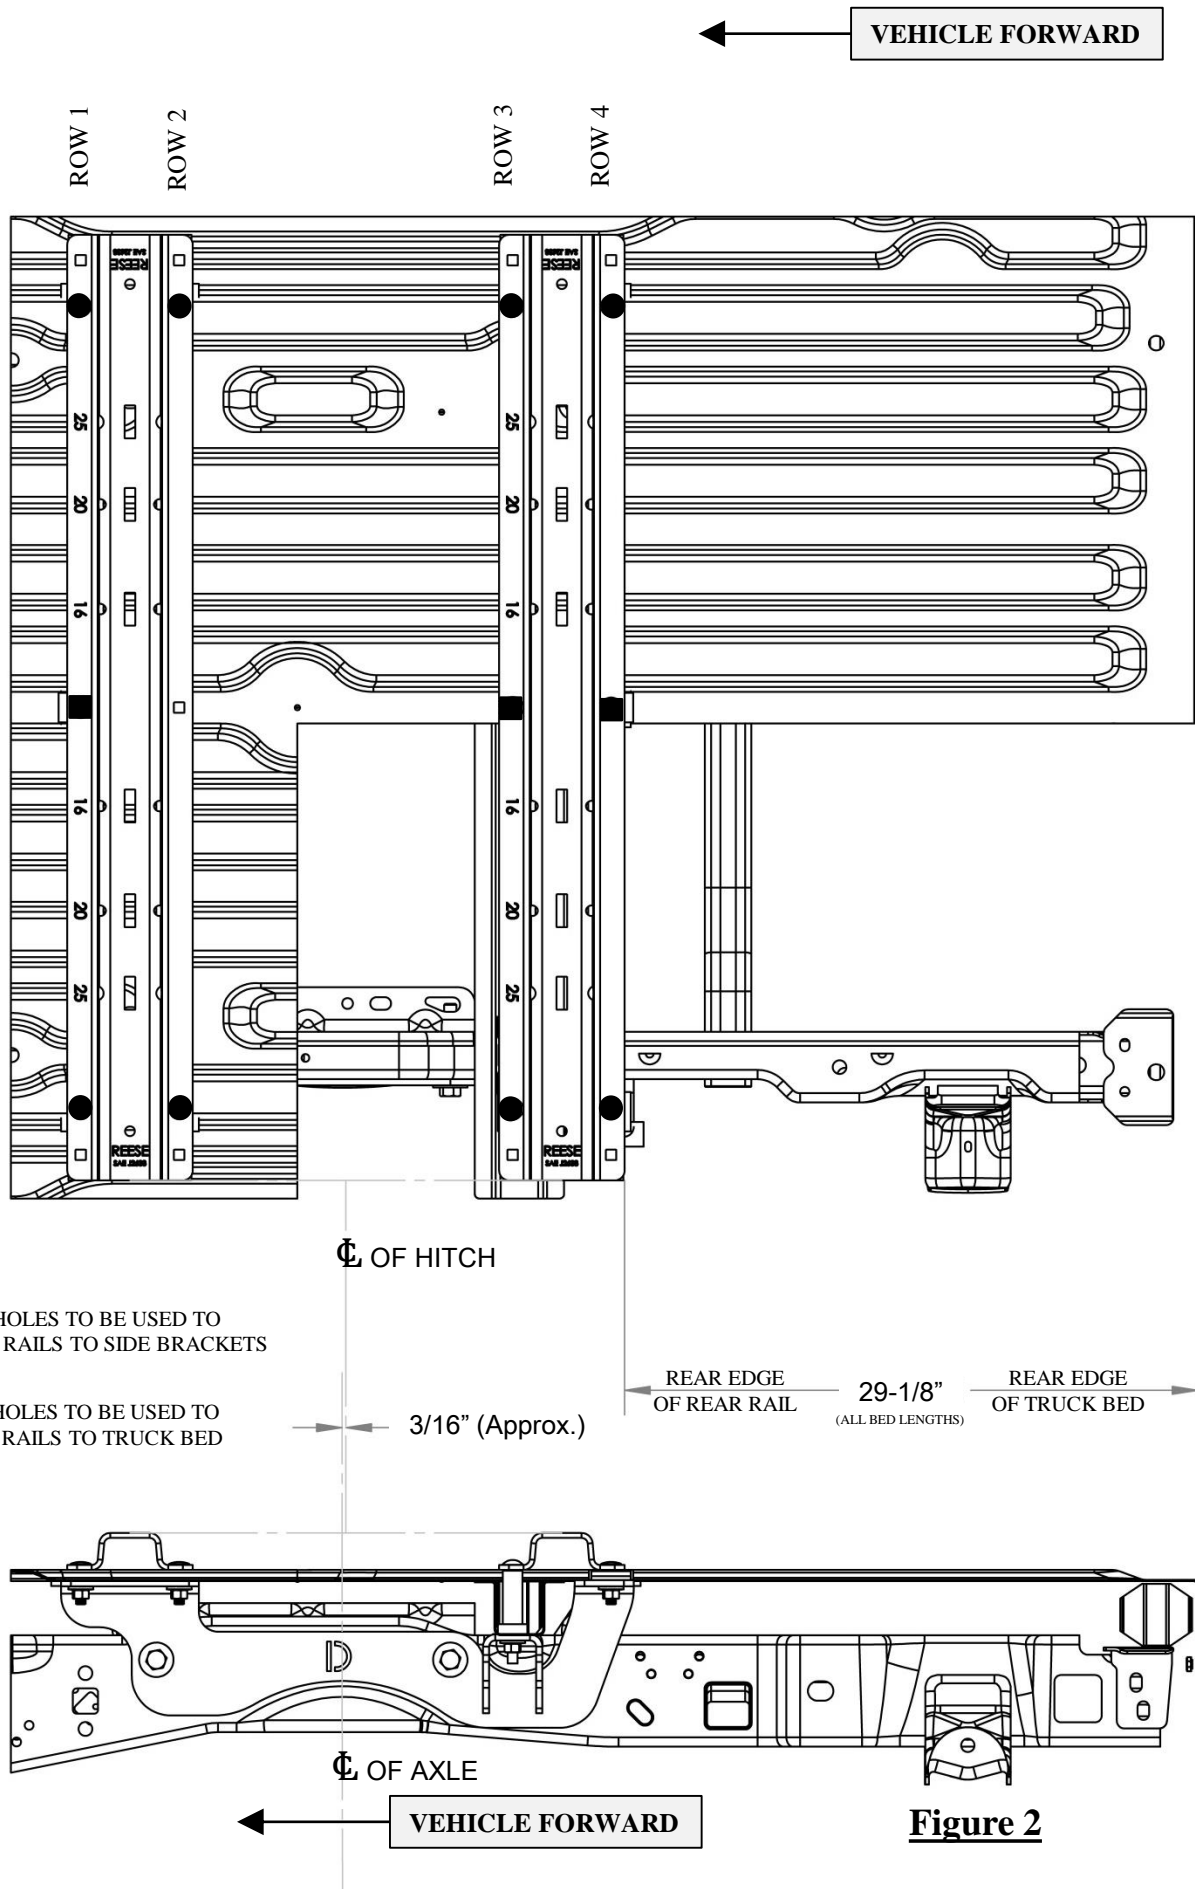

Figure 2
- 3.) Place the rear mounting rail in the box of the truck. Using your tape measure, center the rail between the weld seams on the length of the truck box floor or the wheel well and the proper distance from the rear edge of the truck. (See Figure 2)
- 4.) Mark and center punch the holes as per the illustrations. Move the rail out of the way and drill each position with a 1/8" drill bit. (See Figure 2) **ENSURE THE 1/8" HOLES DRILLED IN ROW 3 PASS THROUGH BOTH THE TRUCK BED AND THE TRUCK BED CROSSMEMBER**
- 12.) Install the rear rail attachment bolts as shown in figure (3). Ensure that the galvanic isolator patches (11) are installed on the U-shaped spacers and spacer blocks as shown. (See figures 4 & 5) Attach the 1/2" conical washers (14) and hex nuts (13) on the bottom side of the frame bracket (16) & (17) , as per figure 3, and tighten snug to keep the mounting rail from moving. For the bolts in row 3 (figures 2 & 6), which go through the truck bed cross member/sill/hat section, route the 1/2-13 x 5-1/2" Carriage bolt (2) through the rail and tube spacer (18) and 1/2 x 1-1/2 x 2-1/4 spacer (3), and secure using the 1/4 x 1-1/2 x 3 spacer (5), 1/2 conical washer (14), and 1/2-13 nut (13). For the center rail bolt in row 4 of rail attachment bolts, route a 1/2-13 x 2" Carriage Bolt (15) through the rail and bed, with a 1/2 x 1-1/2 x 2-1/4 spacer (3) between the rail and bed. Then secure using a 1/4 x 1-1/2 x 3 spacer (5), 1/2" conical washer (14) and 1/2-13 nut (13). **See Figure 6 for a detailed view of the bolts in row 3.**
- 14.) Mark and center-punch the holes in the front mounting rail as per figure 2. Move the front mounting rail and the frame mounting brackets out of the way, and drill with a 1/8" drill bit.